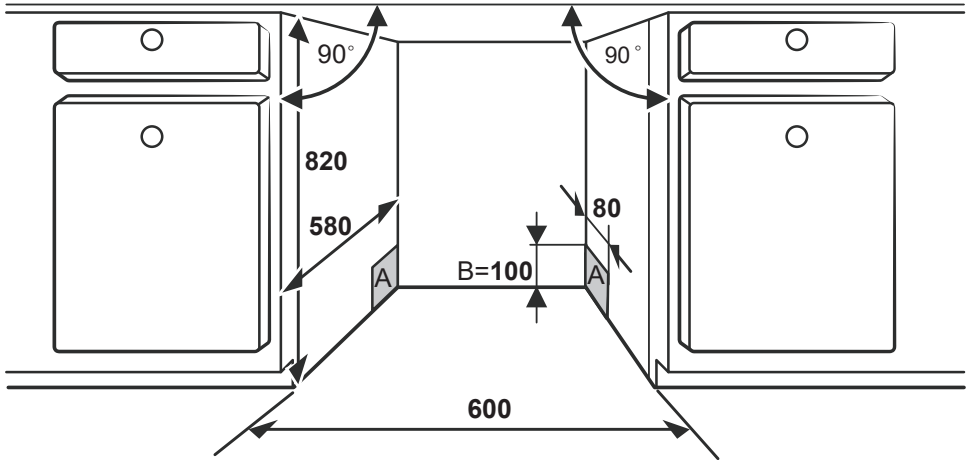

Figure 1
1. Choose a place near the sink to facilitate the installation of inlet and drain hoses (see figure 1).
7. Place the dishwasher **into position**. (Figure 1)